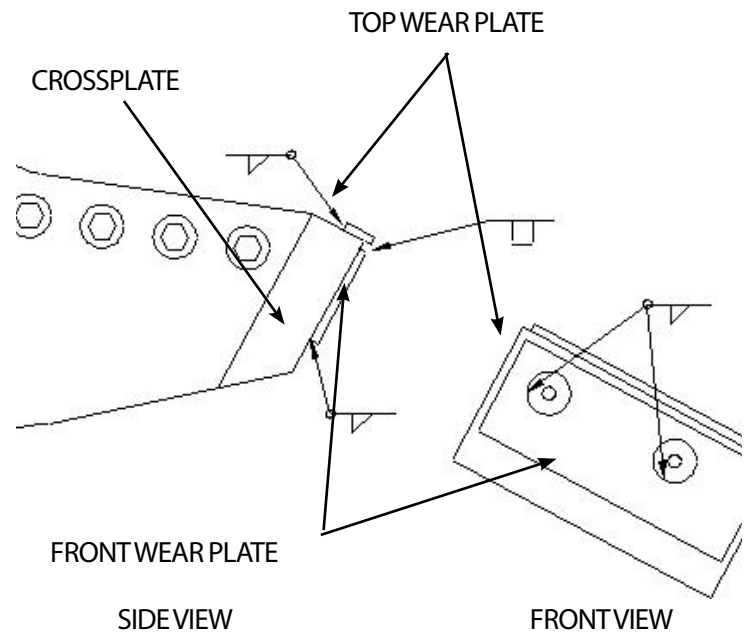

FIGURE 5-35
4. Position the new front wear plate so it is centered across the width of the cross plate. The holes in the wear plate should be aligned with the holes in the nose plate. This should leave a gap between the top of the wear plate and the top of the nose plate that will be filled with weld later (see Figure 5-35). Clamp the wear plate into position, bring the preheat back up to 400°F (200°C). Tack weld in place.